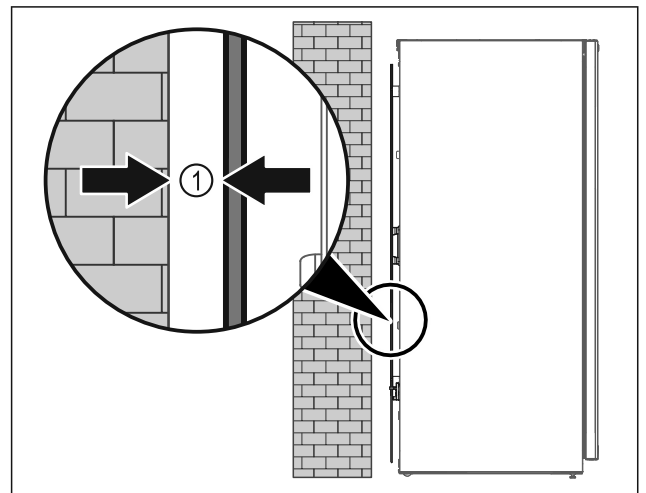

Fig. 9
- ▶ Set up the appliance either free-standing or directly against a wall at a minimum distance of 5 mm Fig. 9 (1).